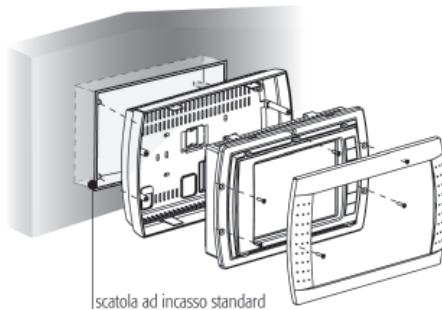

Fig. 3
The wall-mounting of the terminal first requires the rear of the case (Fig. 3) to be fastened to a standard 12/14 module switch box (as per CEI23-48 – IEC60670).
- Pre-fasten the front panel to the rear of the case: secure the entire assembly as illustrated in Fig. 3, using the 4 countersunk screws included in the plastic bag inside the packaging;